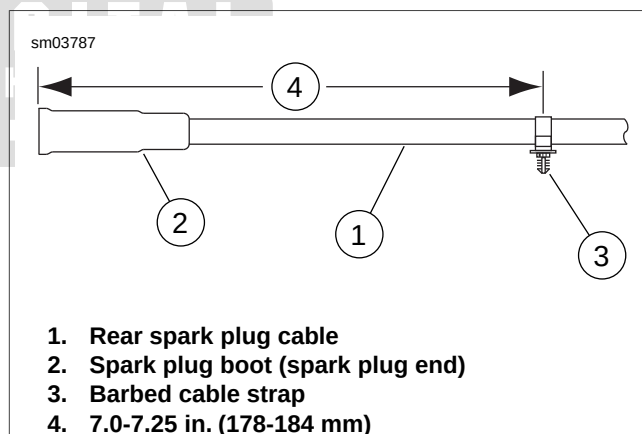

Figure 6-118. Rear Spark Plug Cable and Cable Strap (XL Models Only)
16. See Figure 6-118. If barbed cable strap (3) securing rear spark plug cable (1) to caddy latch clip was cut, install **new** barbed cable strap 7.0-7.25 in. (178-184 mm) from tip of spark plug cable boot (2), orienting cable strap so that spark plug cable is above mounting boss on caddy latch clip when barbed prong on cable strap is inserted in hole in boss. Press cable strap barbed prong firmly into hole in caddy latch clip mounting boss.